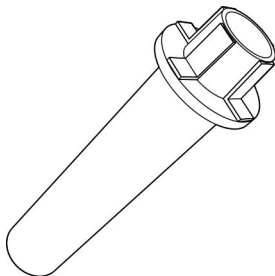

Fig. 51: Cone head cleaner (HSK 25 example)
5. ➔ Insert the cone cleaner (Fig. 51) in the tool holder and turn it 2 – 3 times.